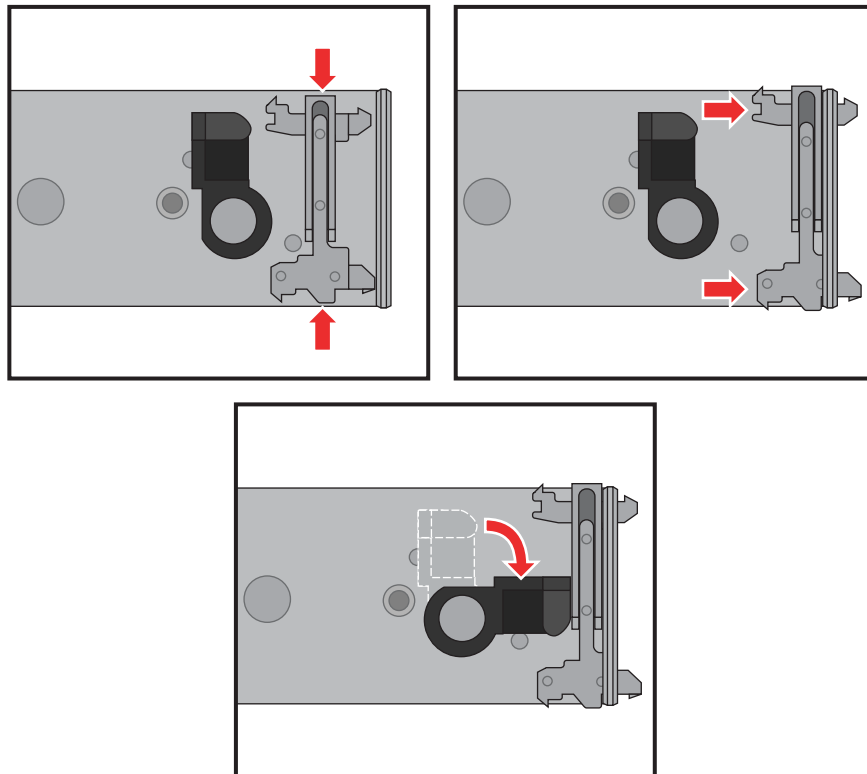

Figure 1-6 Reversing the Rail Pin Adapter
2. Squeeze the adapter’s pins together and extract it from the end of the rail, see Figure 1-6 on page 8.